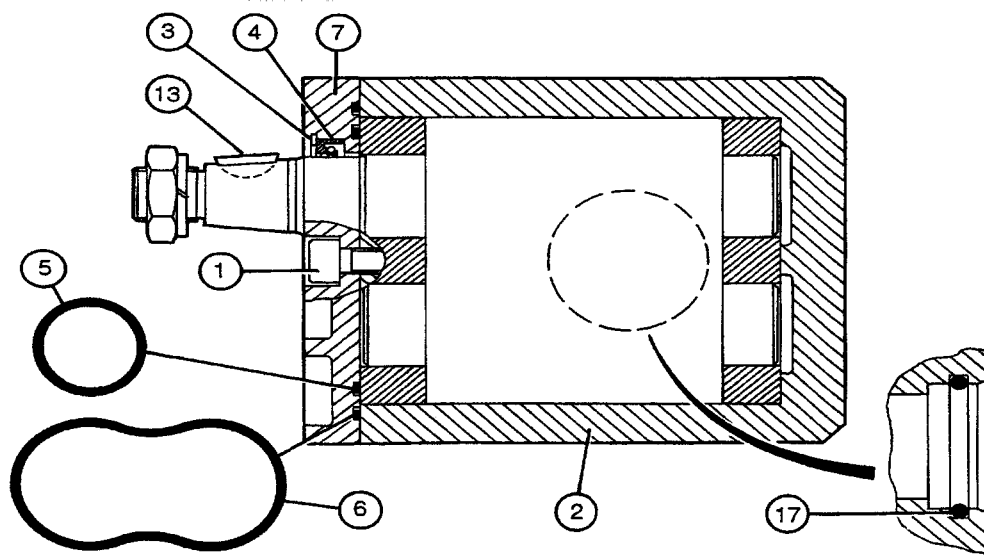

Fig. 9
- Nut (15) : 50 to 60 Nm (Loctite 241)
- Bolt (22) : 40 to 50 Nm (Loctite 241)
**C . Replacing the pump seals (Fig. 9)****Preliminary operation**